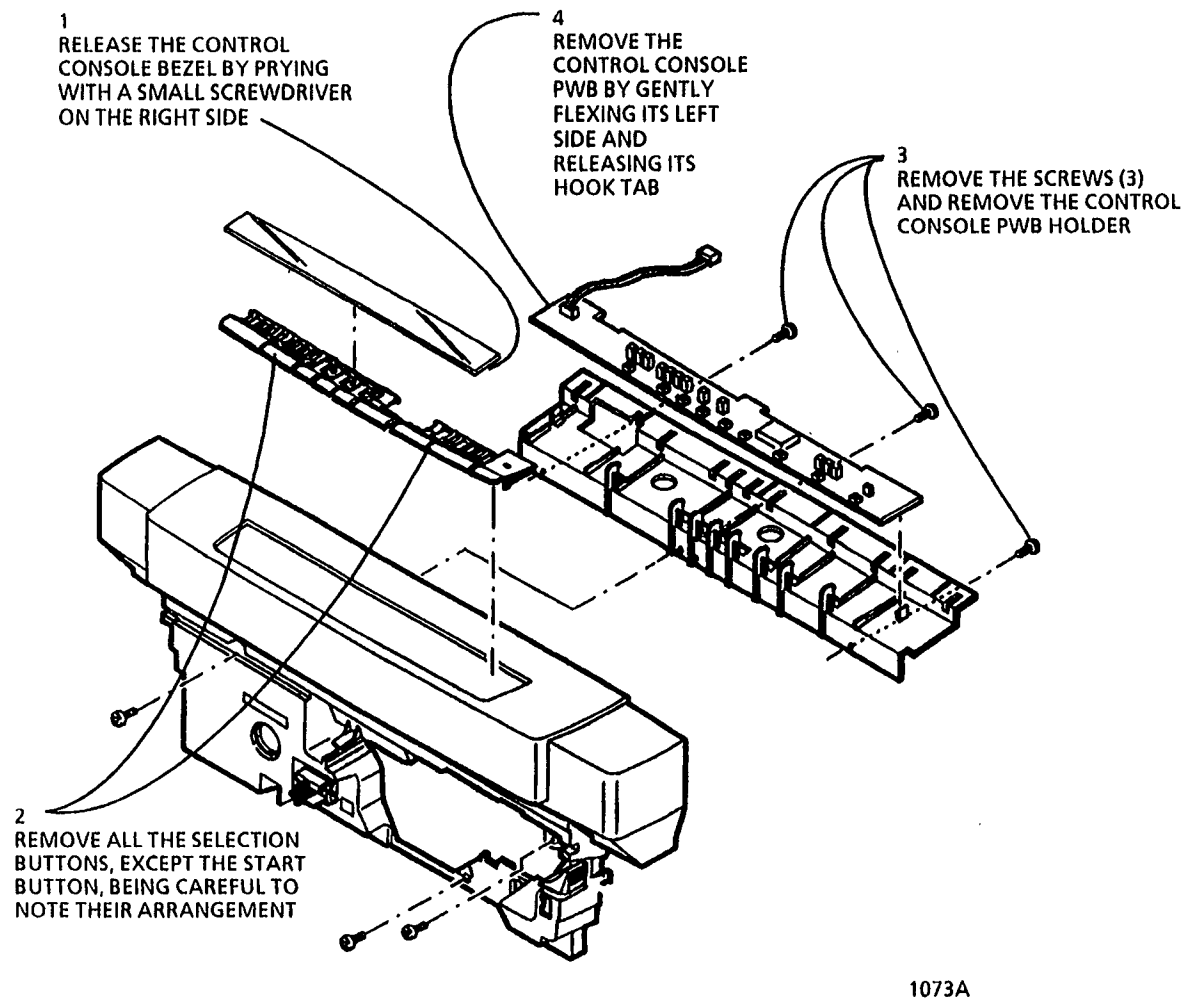

Figure 1. Removing the Control Console PWB
2. (Figure 1): Remove the Control Console PWB.